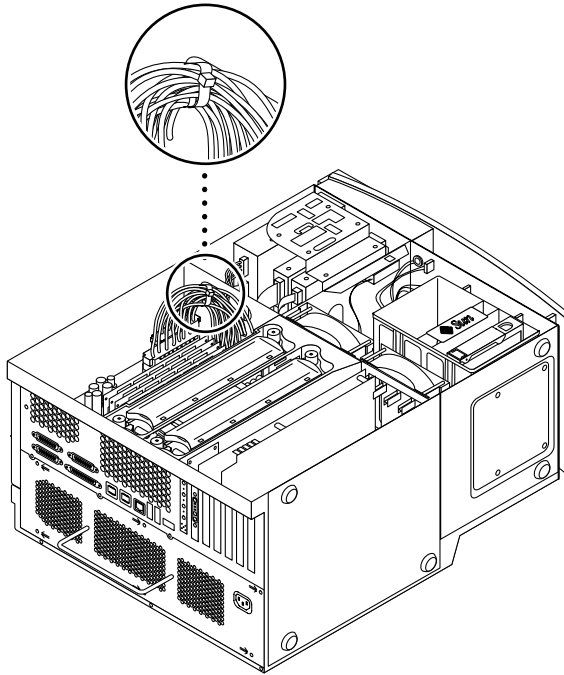

FIGURE 6-1 Power Supply Cable Tie
3. Loosen the reusable cable tie in the upper-right corner of the chassis cutout that secures the two power supply cables. (FIGURE 6-1)
6. Attach the reusable cable tie around the power supply cables (FIGURE 6-1).